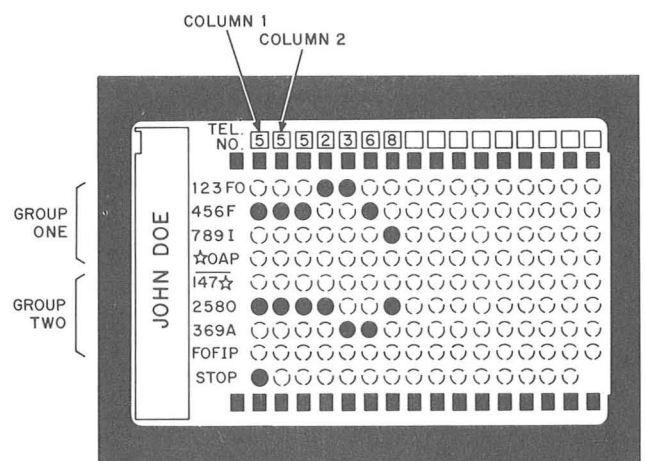

Fig. 2—Card Coded For 7-Digit Telephone Number
(1) Write name and telephone number on card in spaces provided (Fig. 2). Convert exchange letters to numbers by referring to telephone dial (i.e. use 7 for P, R, or S; 8 for T, U, or V; etc).
(2) There are two groups of numbers and symbols on the left side of the card. The symbols (A, P, I, F, FO, and ★) are used to encode special service codes.
(3) There are 16 columns to the right of the number groups in which the telephone number is to be encoded. Each digit in the telephone number heads a column. To code a number or symbol locate it in the upper group on the left and punch out the perforation in the column corresponding to that unit in the telephone number. In the same column locate and punch out the unit in the lower group of numbers. Use a pencil or ball-point pen to punch out the perforations.